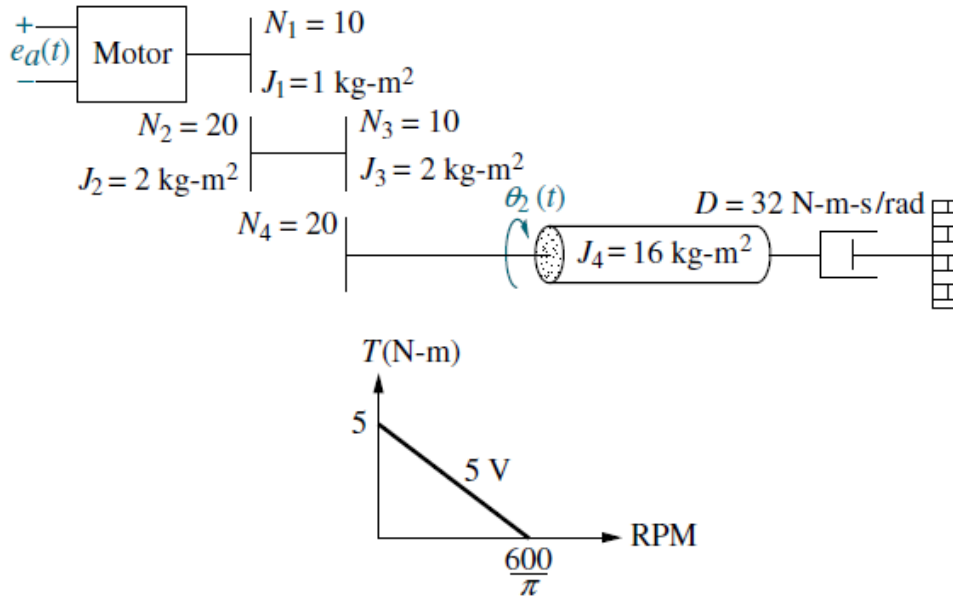

FIGURE P2.29
43. The motor whose torque-speed characteristics are shown in Figure P2.29 drives the load shown in the diagram. Some of the gears have inertia. Find the transfer function, $G(s) = \theta_2(s)/E_a(s)$. [Section: 2.8]